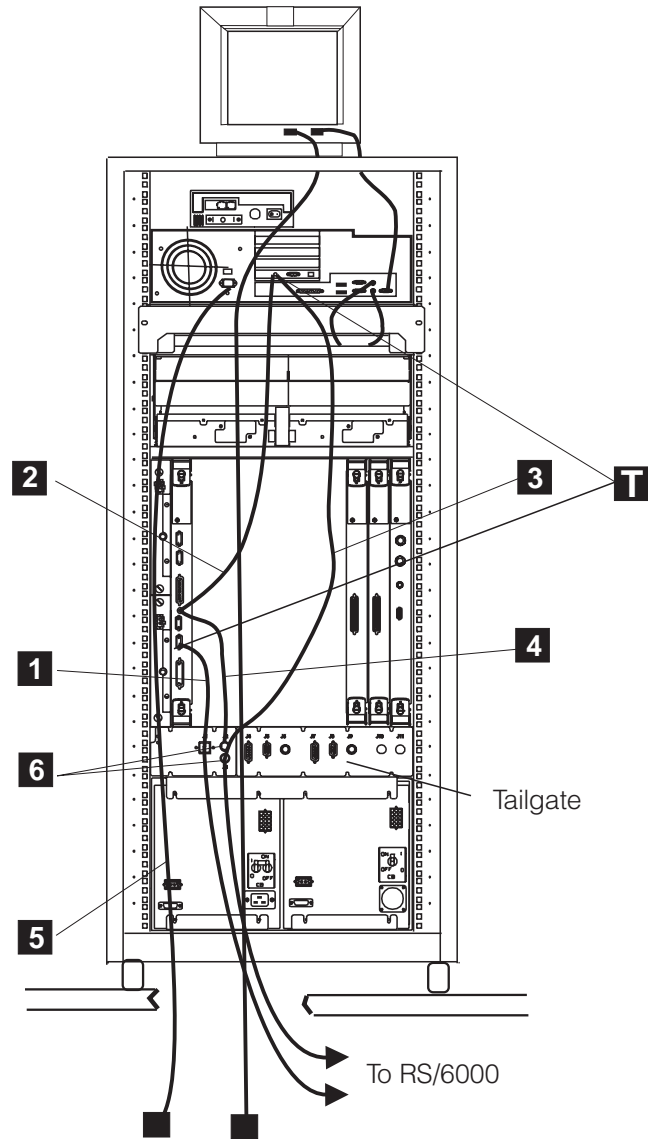

Figure 1-32. Connecting the NAS Installed in a 29 U Rack to the APC Card
2. ____ Connect the cables (refer to Figure 1-32 on page 1-27) to the APC and APC tailgate as follows: